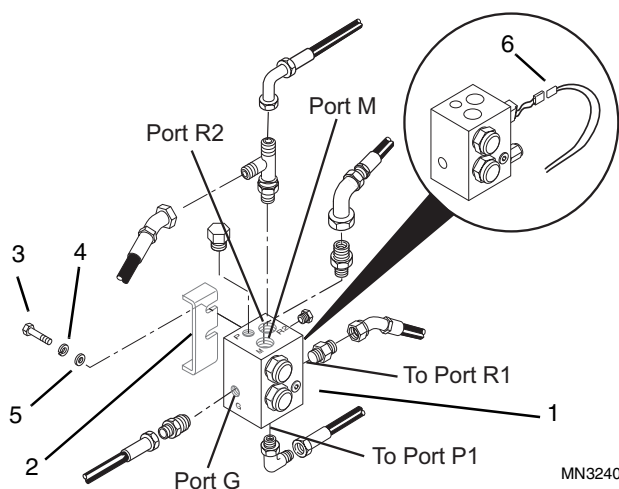

Figure 10-85 High Flow Valve Installation
- Install the high flow valve (Fig. 10-85, 1) to the mounting bracket (2) located inside the engine compartment on the fuel tank, and secure with socket head capscrews (3), lockwashers (4), and flat washers (5).
- Plug the electrical connector (Fig. 10-85, 6) with red wire # 87 and black wire #23 into the solenoid on the valve.
- Uncap all hydraulic hoses, and connect hoses to the high flow valve (Fig. 10-85, 1). If the hoses were not tagged during disassembly, refer to Figure 4-71, "High Flow - Supply, Return and Cooling Circuits" and Figure 4-72, "High Flow (DX) Hydraulic Circuit" for hose connection diagrams.